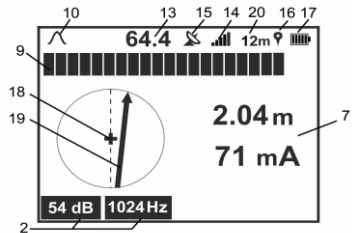

Fig. 20. Display with compass and "Trace" mode
Additionally with the COMPASS LINE option switched on, the direction of the located cable relative to the Receiver will be displayed. The display of the TRACE mode with COMPASS LINE feature is shown in **Fig. 20**, in the TRACE-SENSOR mode – in **Fig. 22**.
The „Compass line mode” is used to facilitate location of single long-distance utility lines with bends and turns. This „Compass line ” shows the orientation of the located utility relative to the Receiver. The option is selected via Menu as follows: **Menu > Indication > Compass Line** then confirmation . The Compass arrow will show the direction of the utility (pos. 19, **Fig. 20, Fig. 22**).